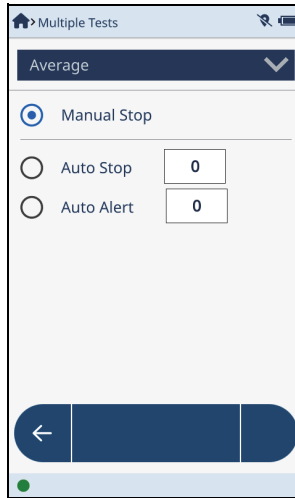

Figure 2-14 Manual Stop enabled
1. In the **Average** dialog box, tap the **Manual Stop** button (see Figure 2-14 on page 34).